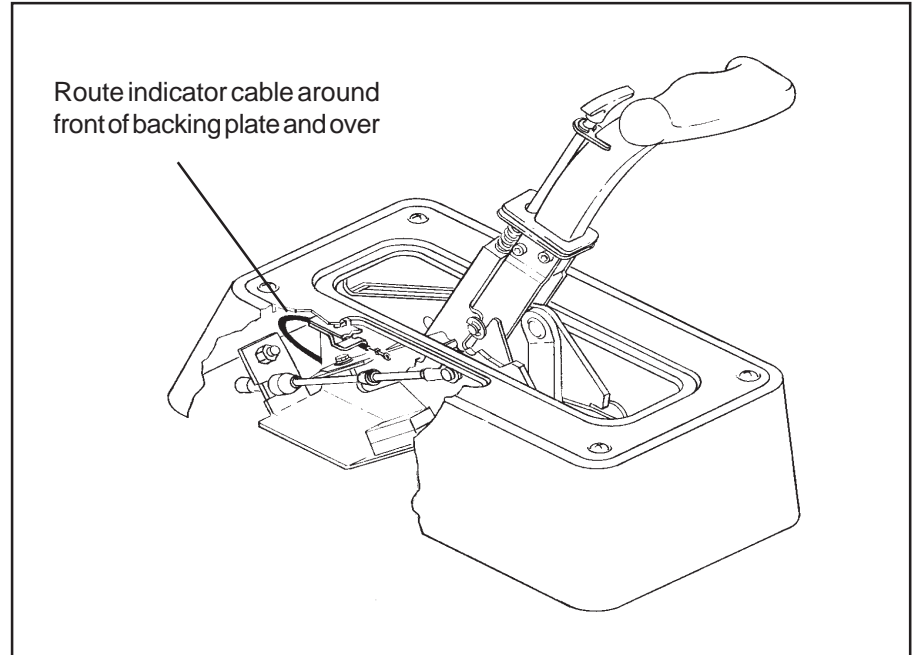

Figure 10
STEP 32. Snap the shift position window into the cover plate. The window snaps in from the top with tabs inserting into the slots at either end of the window opening. Place the shifter in the Park position then remove the T-Handle from the shifter. Place the cover plate over the stick and onto the top of the tower. Route the indicator cable as shown in **Figure 10**. (If the cable is not routed this way, the indicator may bind. Run the shifter through all of the gears to check the operation of the indicator. If the indicator needs adjustment, loosen the screws holding the indicator cable clamp to the cover plate and slide the cable bracket to adjust the indicator position. (Re-tighten these screws carefully since they are threaded into the plastic.) Attach the cover plate to the tower with four Phillips head screws.